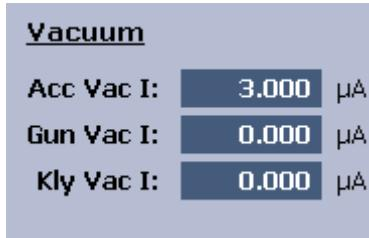

Figure 54 Service Mode—Vacion Pump Currents
2. In the top half of the Service screen in the Vacuum area, view the Meter Readouts to see the actual currents for the accelerator, gun, and klystron vacion pumps (Figure 54).